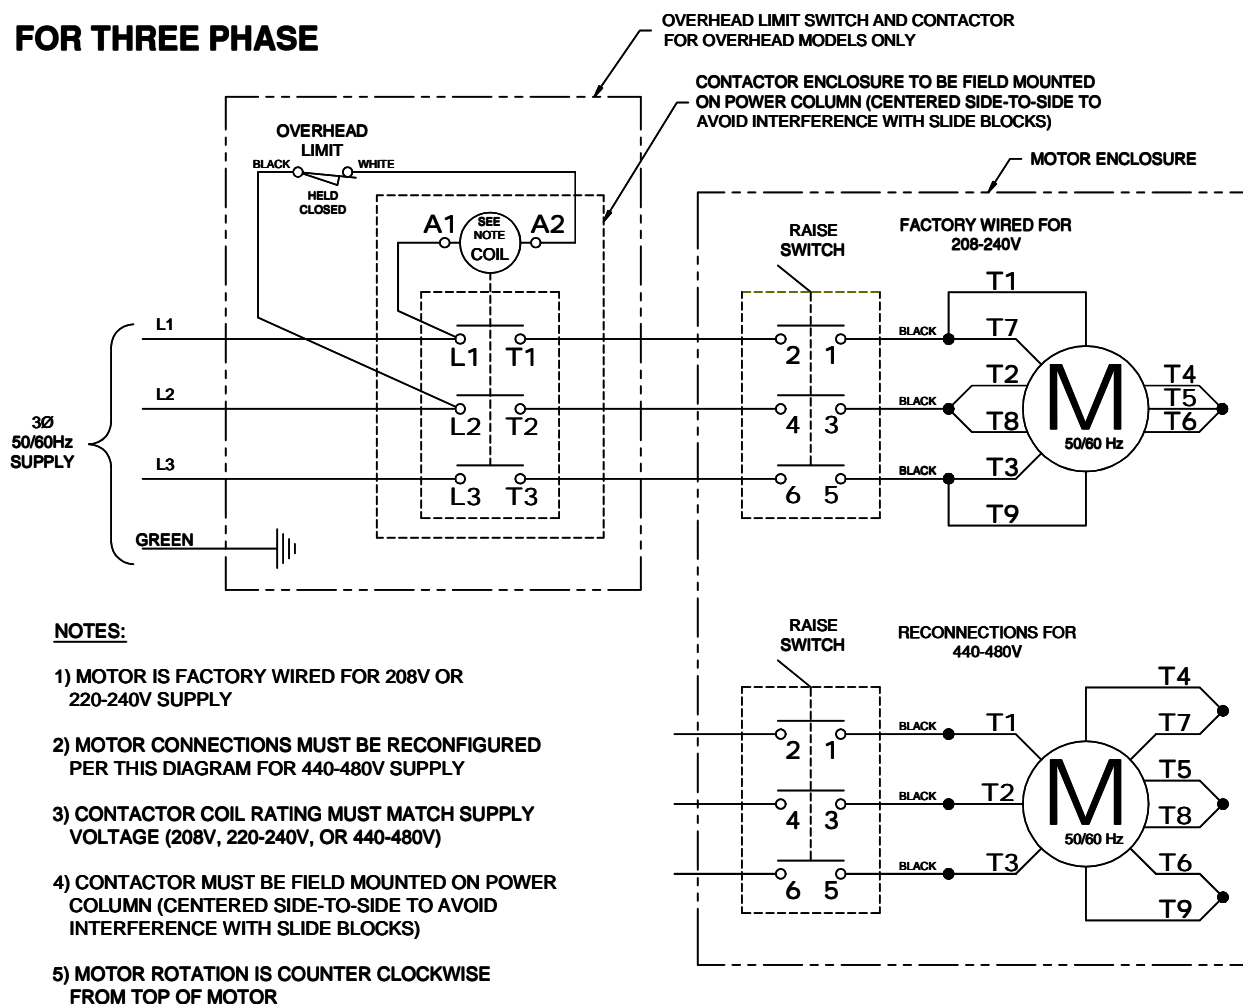

Fig 13 – Electrical Wiring Diagram
- 37) Connect the Overhead Limit Switch Cord to Power Unit as shown in **Fig 13**.
- 38) Connect Power Unit to suitable electrical source as shown in **Fig 13**.